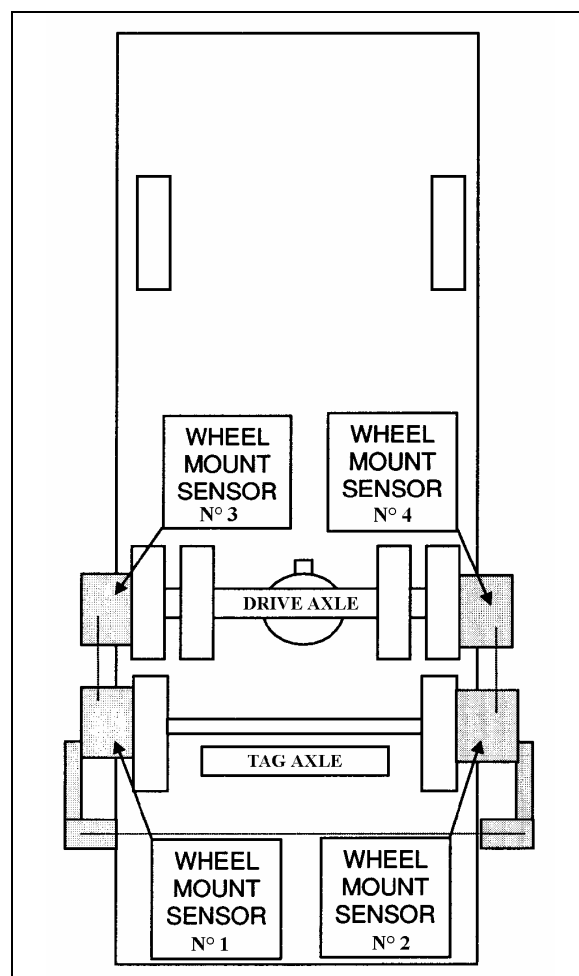

FIGURE 8: TAG AXLE ALIGNMENT 11026
- Remove and reinstall all wheel mount sensors on the drive and tag axles (fig. 8);
Reinstall wheel mount sensors as shown in figure 8.